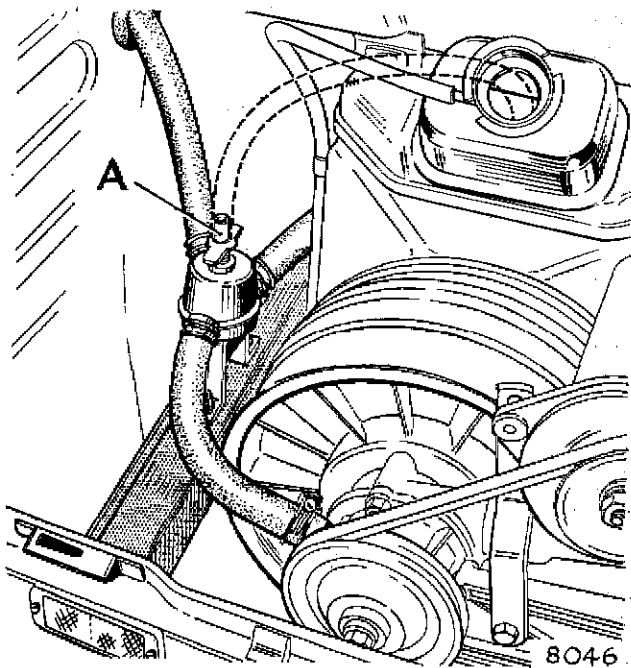

Fig. 1. By-pass junction and method of bleeding system.
The unit is shown in Fig. 1 with bleeding tube attached.
The bleeding is carried out with the aid of a short length of transparent plastic tubing connected to the bleed valve (A) on the by-pass junction assembly as shown in Fig. 1. The bleed valve (if fitted) on the heater matrix is not for use and must be kept closed at all times.